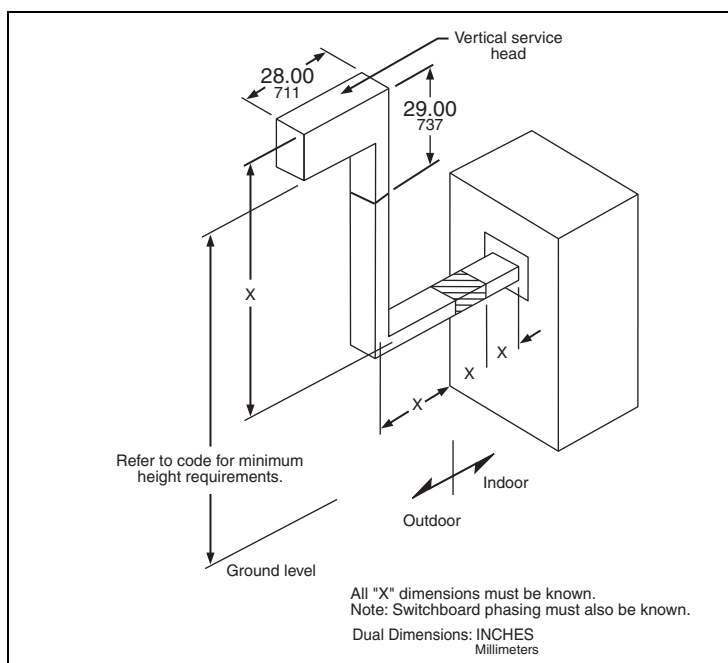
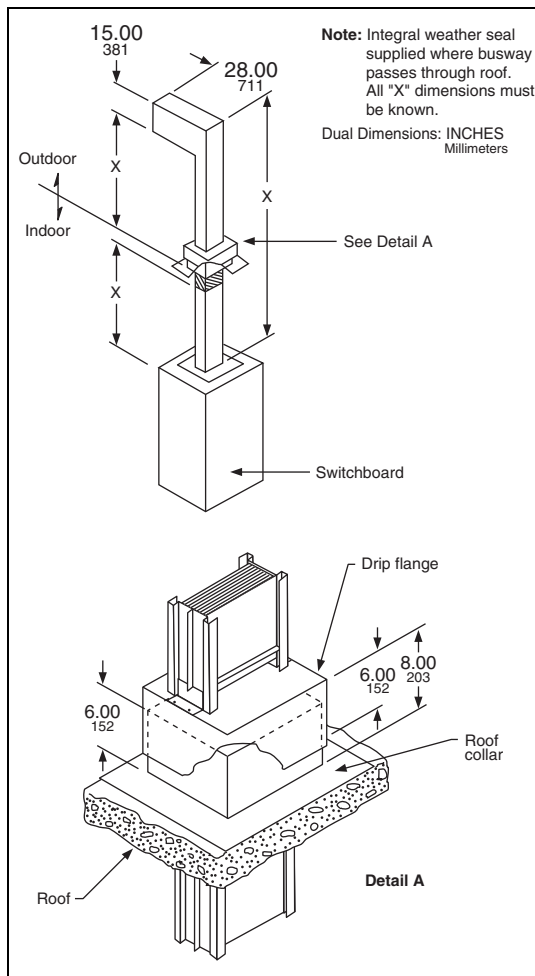

Figure 16: Typical Vertical Service Head Application
Figure 17: Vertical Service Head Penetrating a Roof
If the flatwise busway elevation is too low to allow a cable connection that would comply with the electrical code, the vertical service head (SV) could solve this issue. The SV is attached to busway that exits the rear of the switchboard and is turned upward (see Figure 16) or is attached to busway that exits the top of a switchboard and extends through the roof (see Figure 17 on page 28).
If a vertical service head extends through a roof, the roof must be sealed around the busway. To do this, a fixed collar must be factory assembled onto the section of busway that penetrates the roof. The contractor can then install flashing from the collar to the roof. A roof flange kit can be ordered from the factory to make the flashing job easier. The kit consists of a drip flange and a roof collar. When installed, the roof collar must be sealed to ensure that no moisture gets indoors. The roof flange kit will accommodate a roof slope up to one inch per foot. See Detail A in Figure 17 on page 28.